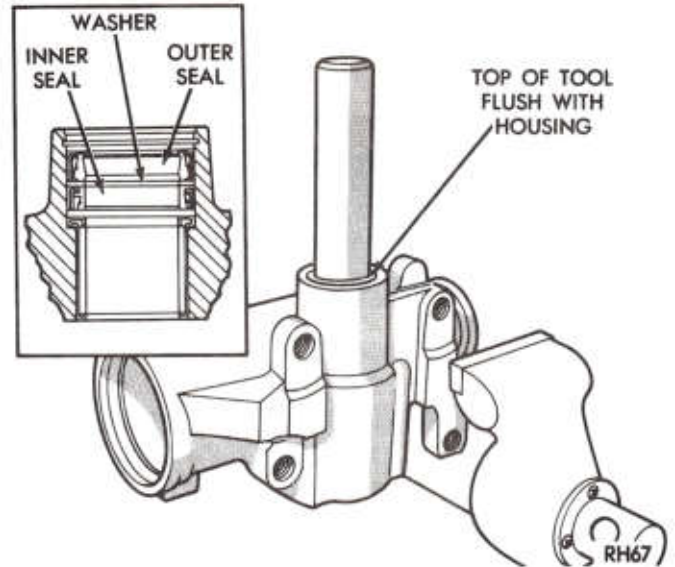

Fig. 22—Install Sector Shaft Seals
(2) To install the sector shaft seal, place adapter C-4178 over Tool C-4171 then install the double lipped outer seal, steel inner washer and inner seal. Make sure that the lips of both seals face toward the housing bore when installing (Fig. 22).
(3) After removing the installing tool and adapter, position the steel outer washer and seal retainer. Using Tool C-4171 with adapter C-4178 drive the seals until the retaining ring seats in its groove. Remove adapter, install steel washer and snap ring.